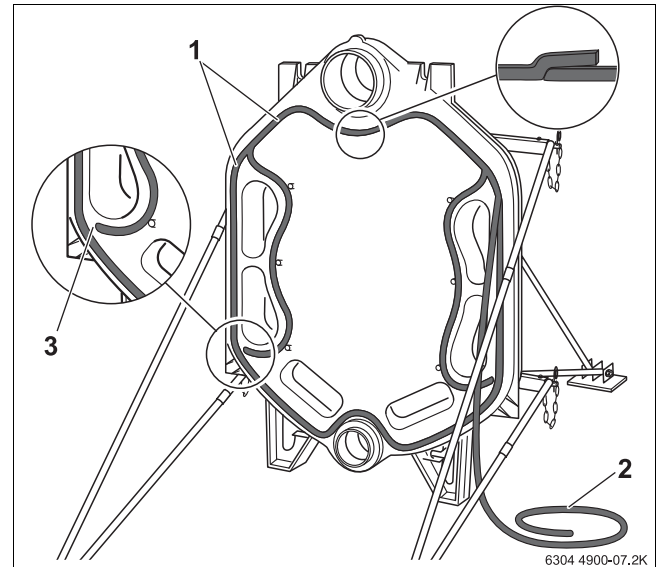
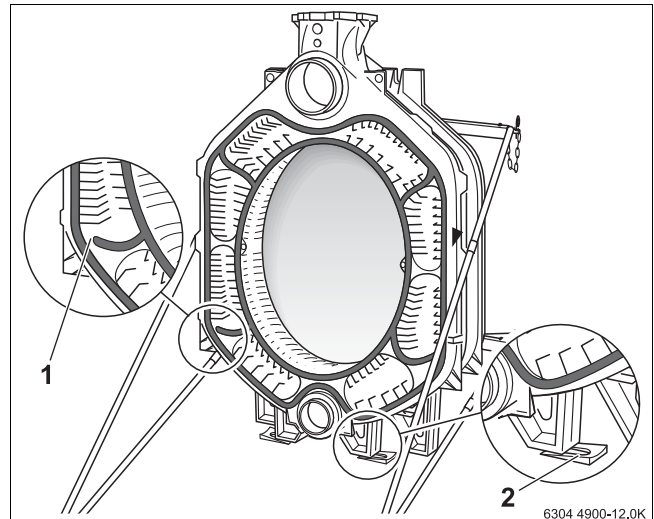

Fig 12 Inserting packing cord (KM cord)
Fig 17 Using the boiler section foot wedges
- Do not allow the packing cord to overlap on the left- or right-hand joints (→ Fig. 12, 3).
Fig. 17 shows the central section with flow connection. The nipples for fitting the next central section are inserted into the corresponding hubs. The packing cord has already been inserted into the packing groove. As with the rear section (→ Fig. 12, page 15), there is also a break in the elastic packing cord here. The boiler section has been equipped with foot wedges for ease of installation. The boiler section foot wedges are also used later for final levelling of the boiler block.
- Level the boiler block vertically and horizontally on the base/silencing plinth (→ see section 4.3.1, page 11). Use the boiler section foot wedges provided for this purpose. (Fig. 17, page 18).